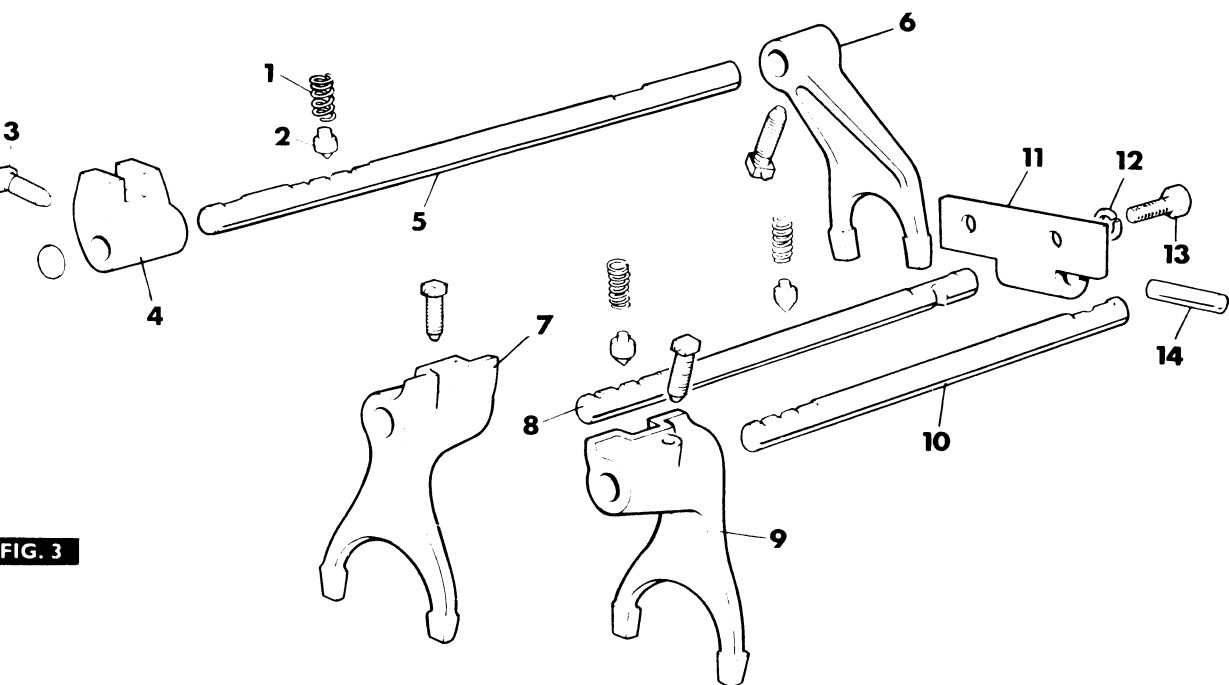

FIG. 3
3. Fig 3. Release the locking wire from the 1st/rev. and 2nd/3rd shift rails (8, 10), and from the rear end of the HIGH/LOW shift rail (5).